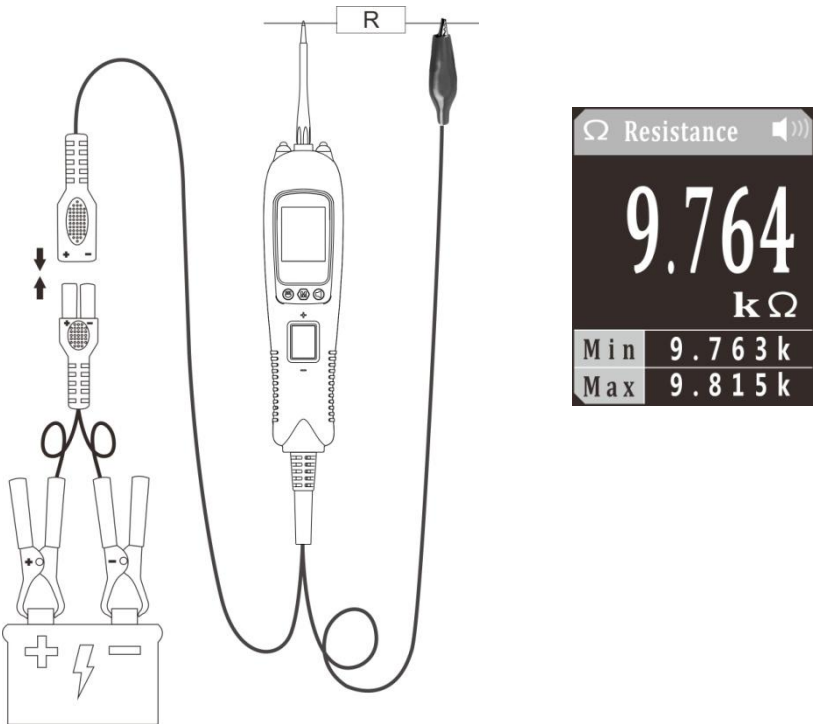

Figure 8
- 3) The probe contacts one end of the measured resistance, and the auxiliary ground lead is connected to the other end of the measured resistance. The LCD display will read the resistance between the tip and auxiliary ground lead. (Figure 8)